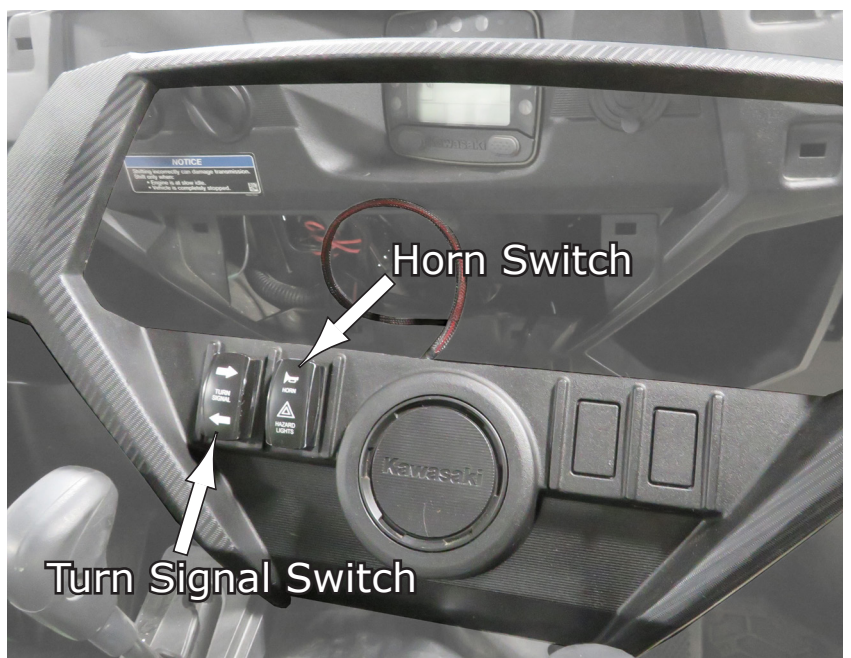

Fig.20
19. To install your new switches, we have chosen to install them into the stock factory dash panel, both Horn and Turn Signal switches. See **Fig.20**.
21. **Fig.20** shows the switches placed in the knockout switch locations ready to use. Then reinstall the Dash Panel, Console and Seats back to normal.